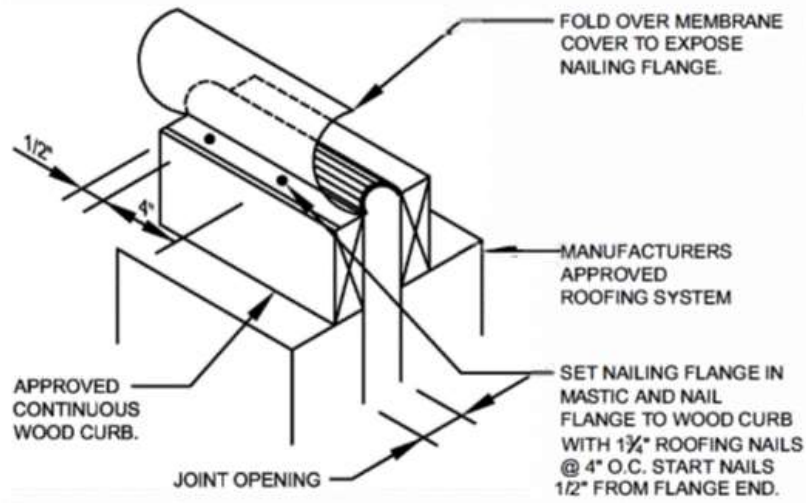

Figure 1
1. Set flange in membrane compatible mastic and nail to roof curb w/ (1) 1 3/4" roof nail at 4" o.c. Start nails 1/2" from flange end. **See Figure 1**